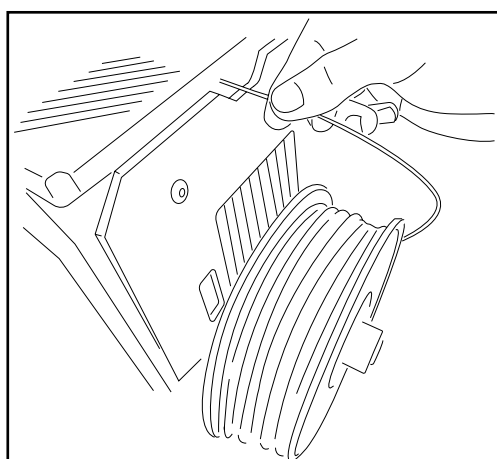

Fig. 3.18 Loading the filament
- 2 The filament must be loaded at the rear of the Witbox via the connector attached to the Fibonacci guide tube (fig. 3.18). It is very important that you position the spool so that the loose end of the filament is on the right-hand side. Trim the end of the filament diagonally across with a pair of scissors; this will make it easier to guide the filament into the tube.